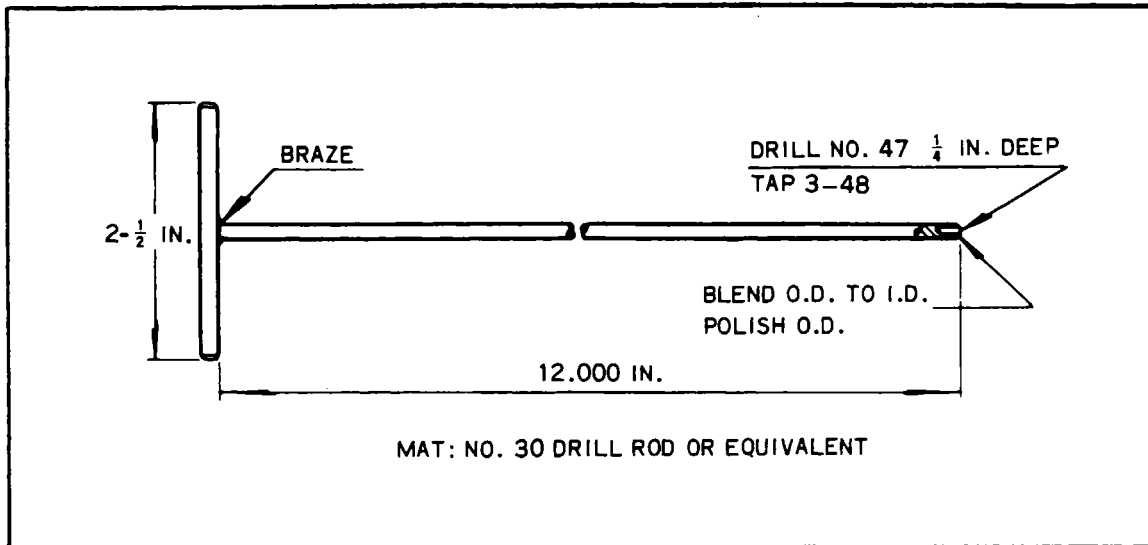

Figure 8A-18. Assembly Tool
1. Using a Scintilla 11-7073 Needle or a mechanical pencil with the lead retracted, hook the end of the contact spring as shown in Figure 8A-17.